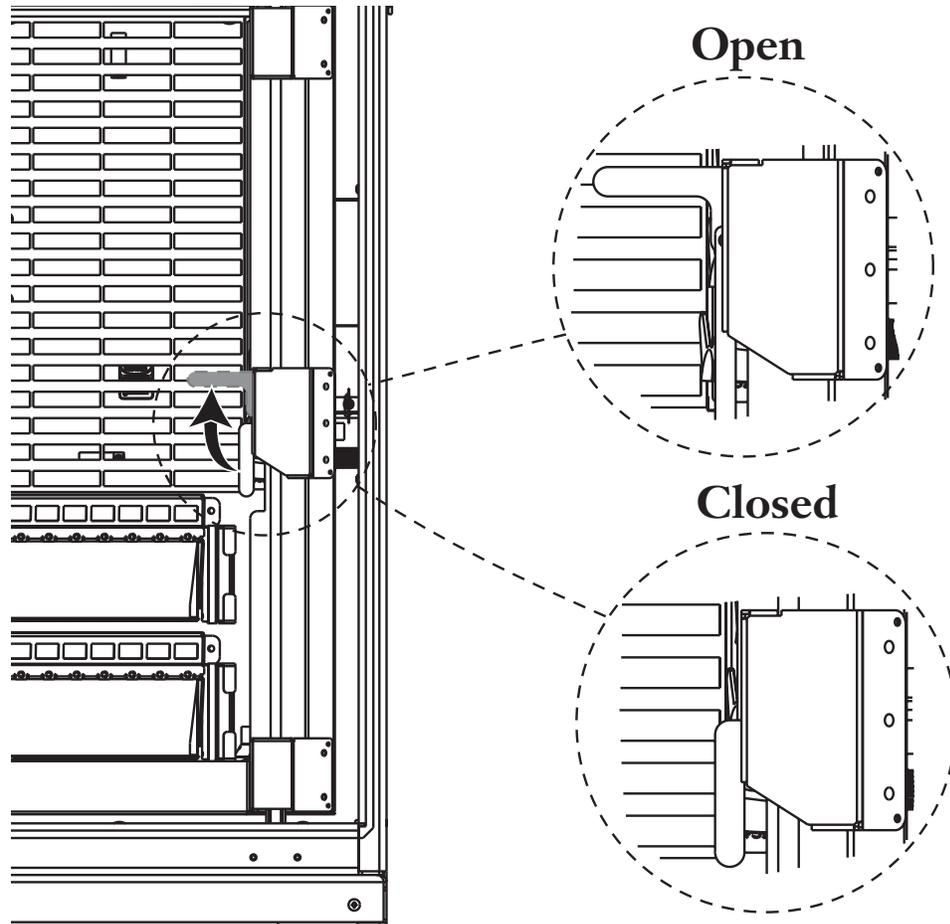

Figure 18 — Open Panel to Access Connectors
If necessary, it is also possible to access the rear of the connector adapter compartment to clean the connectors mated to the rear of the adapters. Lift the handle on the swing-out panel to disengage the latching mechanism (Figure 18). Pull the panel open to a maximum of 125 degrees. The handle will snap back to the closed position. To close the panel, lift the handle again and swing the panel back to its original position inside the cabinet. Move the handle to the closed position.
- Step 2** Open the swing-out panel (Figure 18).